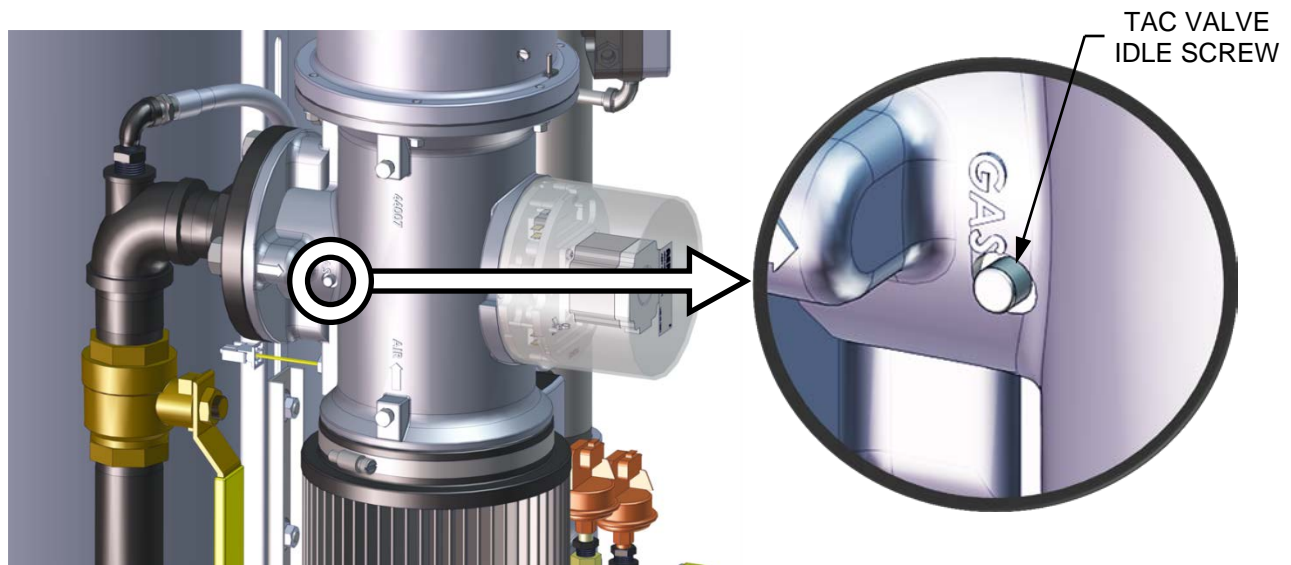

Figure 4-4: TAC Valve Adjust (Idle Screw)
29. If the oxygen level at the 18% valve position is too high and the Blower voltage is at the minimum value, you can adjust the idle screw (TAC valve) which is recessed in the top of the Air/Fuel Valve (see Figure 4-4, below). Rotate the screw 1/2 turn clockwise (CW) to add fuel and reduce the O₂ to the specified level. Recalibration MUST be performed again from 50% down to 14% after making a change to the idle screw (TAC valve).